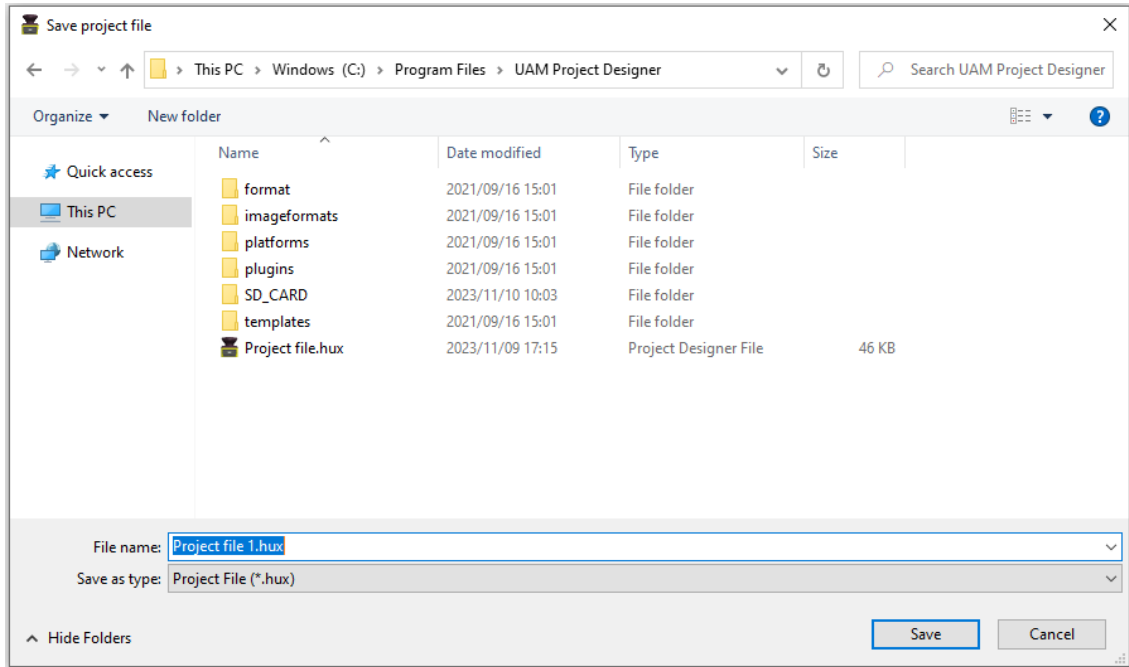

Figure 7-56 Save project file
- c) Enter a file name and click Save button. Change the location of the file if necessary. (Figure 7-56)